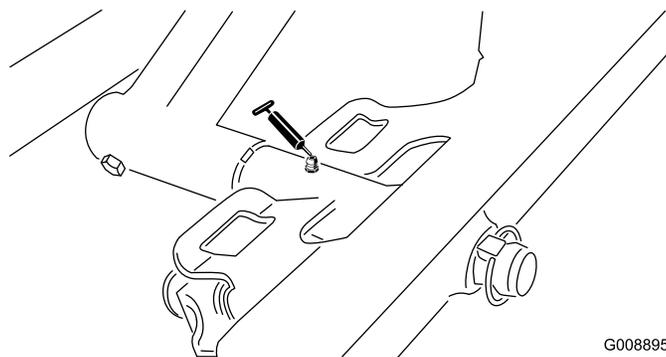

Figure 34
- Front cutting unit pivot (Figure 34)